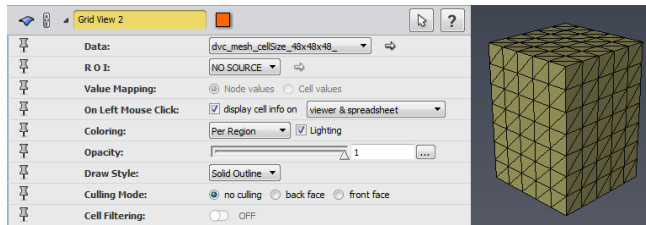

Figure 20.11: Grid View Module Properties and Tetrahedral Grid Visualization
- Visualize the mesh by attaching a *Grid View* module to the created mesh `dvc_mesh_cellSize_48x48x48_`. Set the *Draw Style* port to *Solid Outline* to visualize the elements (see Figure 20.11).